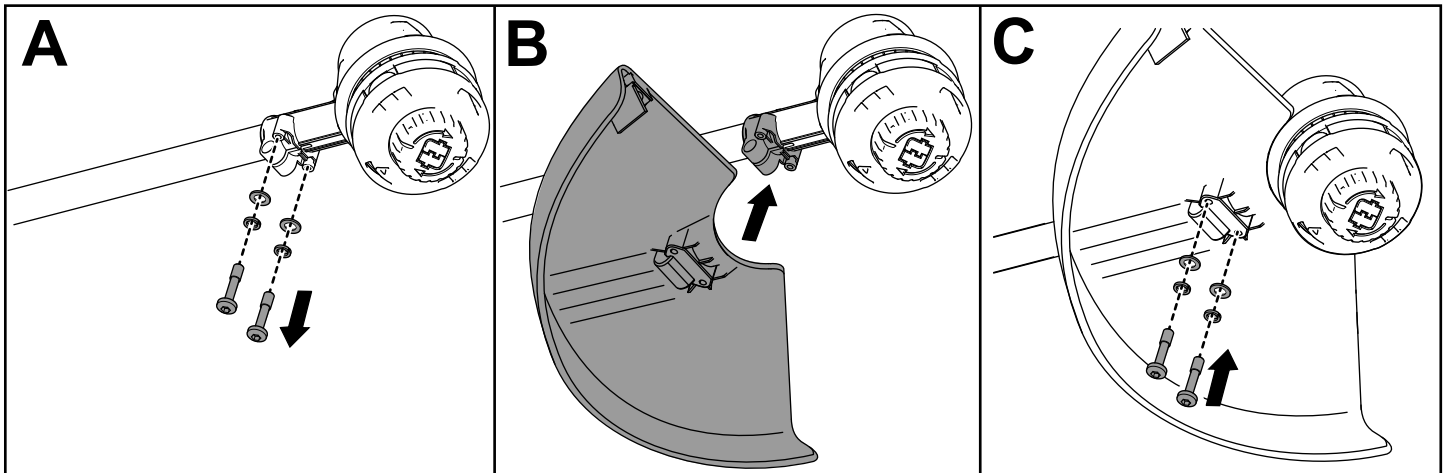

Figure 3
1. Using the provided Allen wrench, remove the 2 socket head screws, 2 washers, and 2 spacers from the trimmer base (A of Figure 3).
2. Align the guard onto the trimmer base (B of Figure 3).